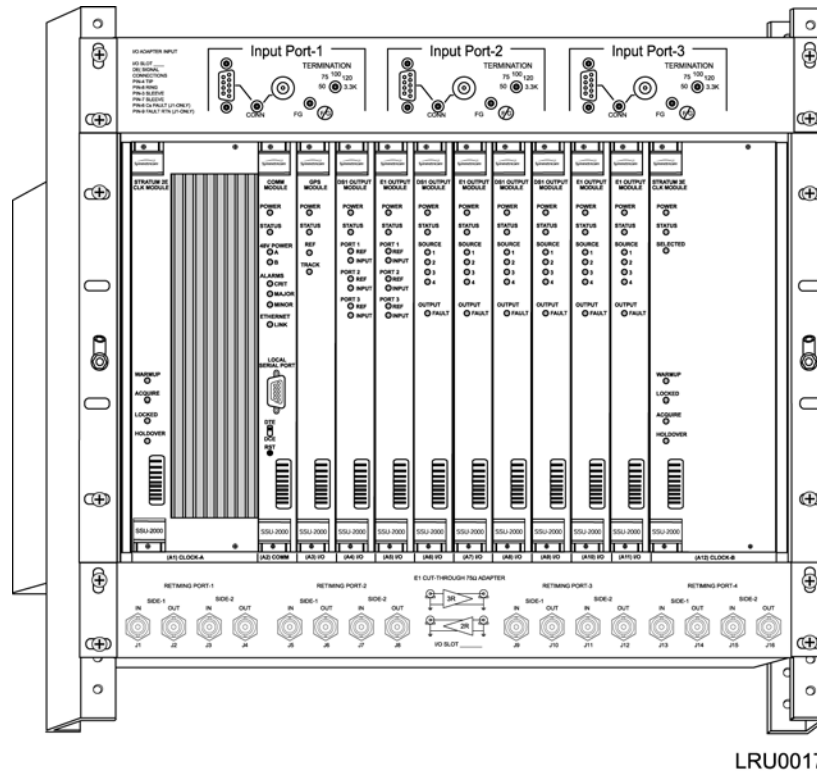

Figure 8-32. Sample Rack Mounting with Input Module, SSU-2000, and Output Panel
1. The I/O adapter panels may be mounted flush to the top or bottom of the SSU-2000 shelf, as shown in Figure 8-32. Use suitable screws for attaching the Output Adapter panel to the rack.